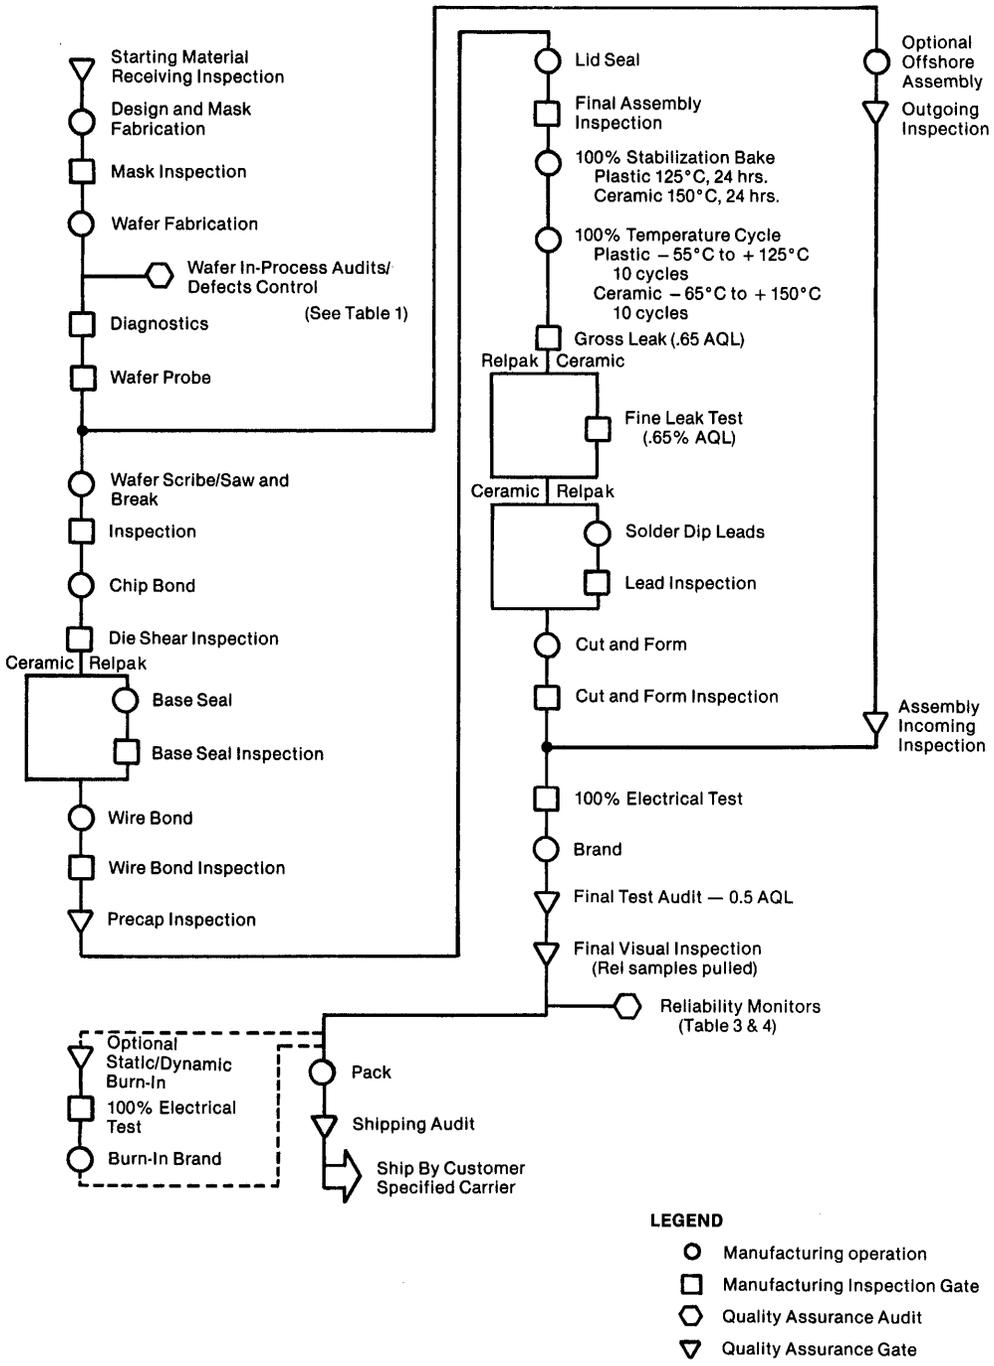

Figure 1 LSI PRODUCTION FLOW
- The Product Assurance Department continuously monitors the internal and external manufacturing flow (shown in Figure 1) and issues process control reports displaying detailed data and trends for the associated areas.
- Quality audits and gates are located throughout the manufacturing process in order to assure a stable process and thus, a quality product to our customers. Figure 1 illustrates the manufacturing/screening/inspection flow diagram and identifies the steps as they relate to the production of LSI devices.